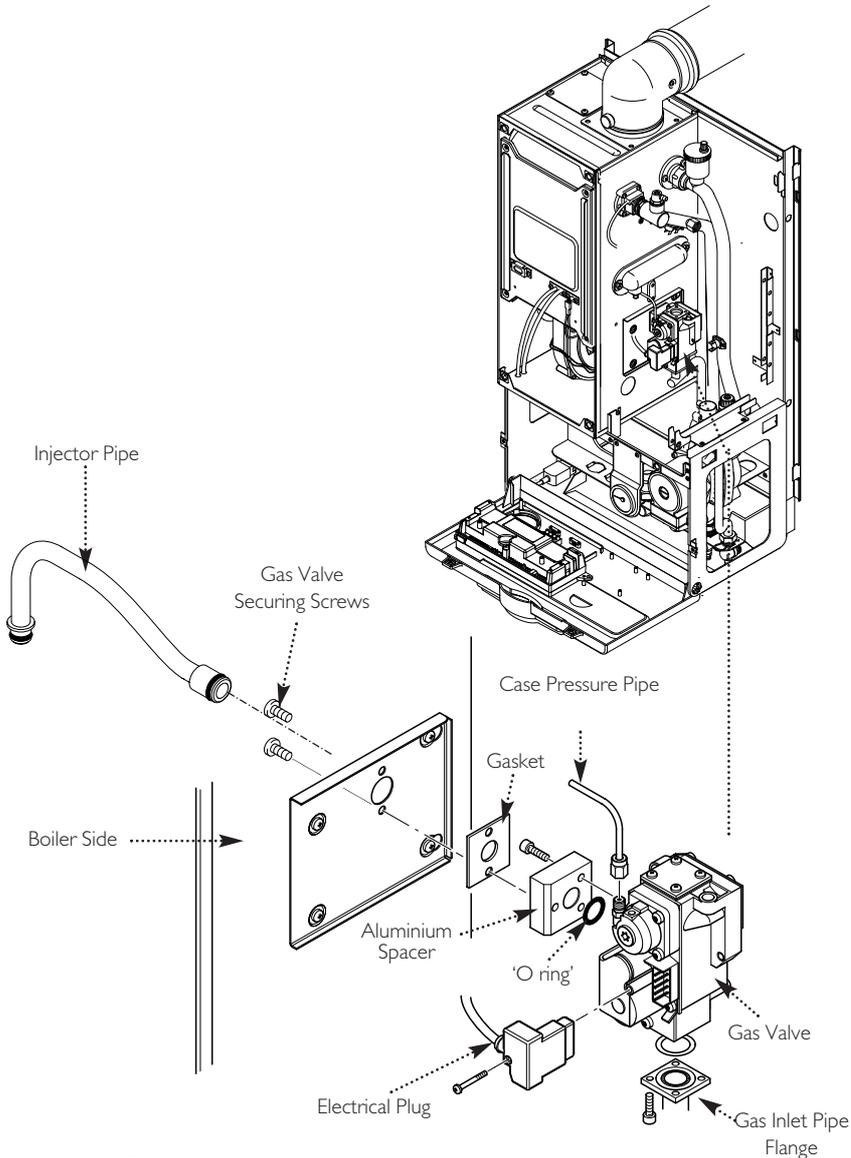

Fig. 60
13.15 Injector Pipe (Fig. 60)
13.16 Gas Valve (Fig. 60)